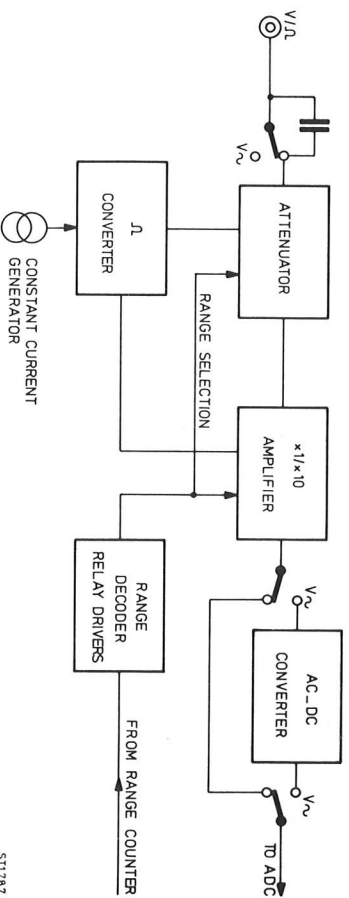

Fig. 11. Block diagram analogue section
7.1.1. Analogue section (see Fig. 11, page 47)